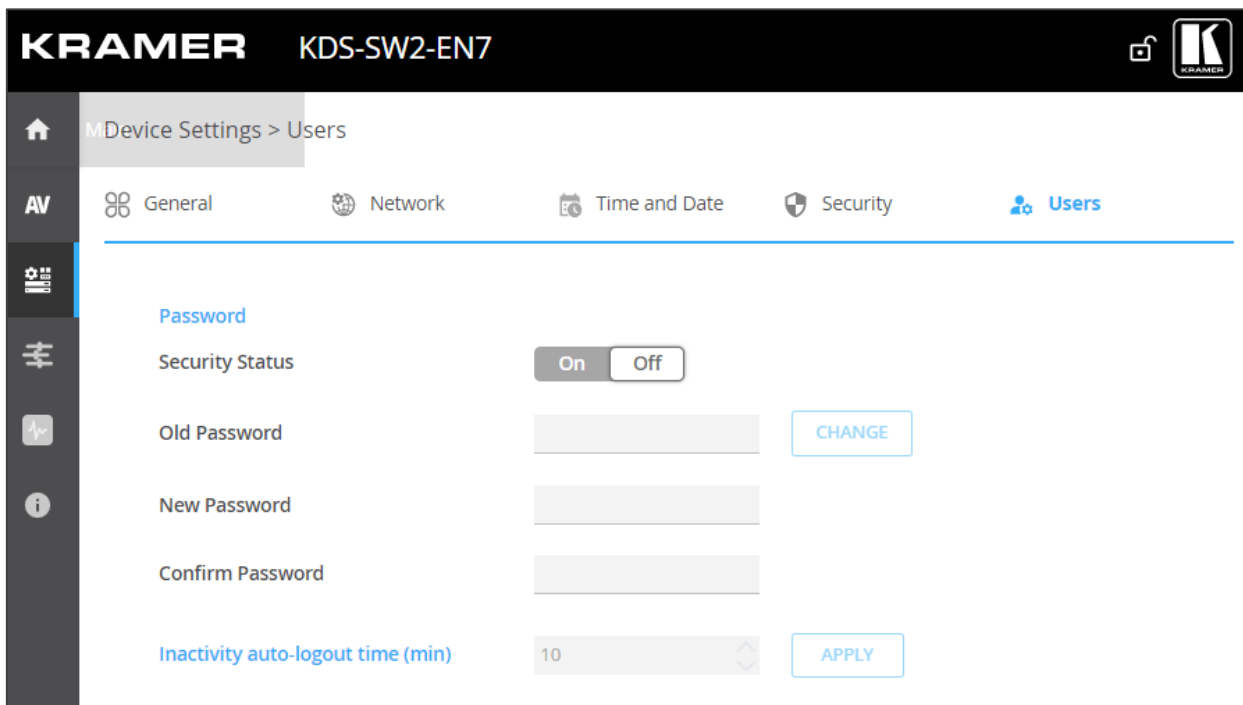

Figure 25: Device Settings Page – Users Tab
- Select Users tab (see Figure 25).